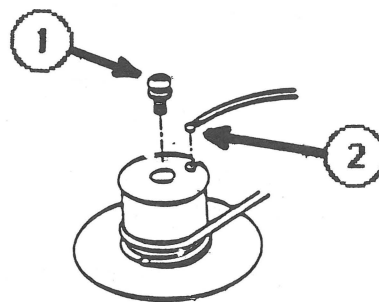

FIGURE 2
8. Use a Phillips screwdriver to remove the screw from the top of the motor pulley (see Figure 2, #1).
11. Remove the top end of the carrier wire from the top slot of the pulley (see Figure 2, #2).